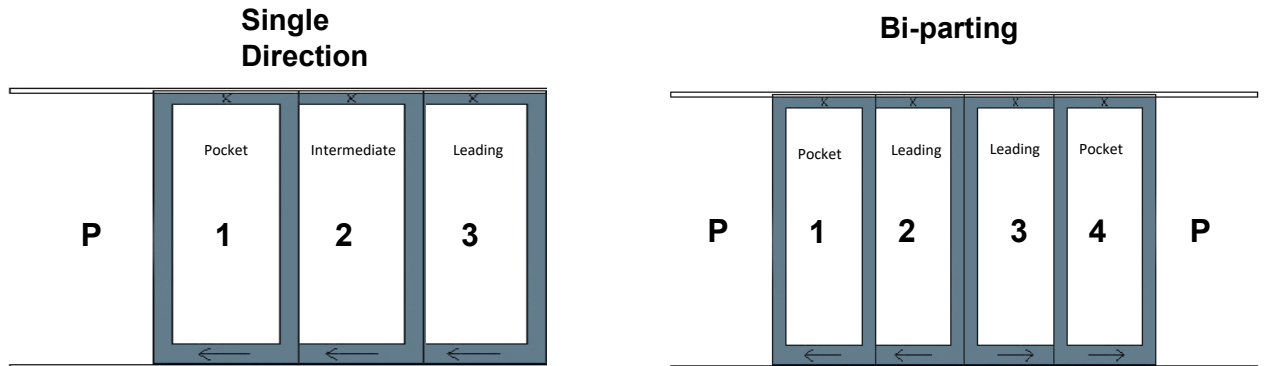

Figure 13
**NOTE:** Panels are numbered as viewed from the exterior, left to right (see Figure 13). Depending on operation, the exterior-most panel could be Panel 1 or Panel 3. The interior-most panel will always be the leading/locking panel when closed. Panel installation must ALWAYS begin with the interior-most panel(s) first, finishing with the exterior-most most panel(s).